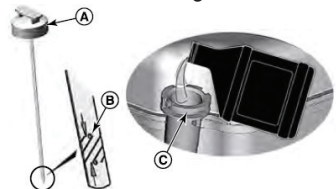

Figure 14
- a) Remove the oil filler cap and wipe the dipstick clean (Figure 14.A).
- b) Refit the dipstick into the filler neck, screw it down. Remove the dipstick and check the oil level; oil should be at the top of the full indicator on the dipstick (Figure 14.B). The oil tank capacity is 0,44 litre.
- c) If the oil level is low add Mounfield oil part number MX855 or a SAE 30 or 10W-30 oil, to the top of the full indicator on the dipstick. Slowly add oil into the engine oil fill (Figure 14.C). Do not overfill.